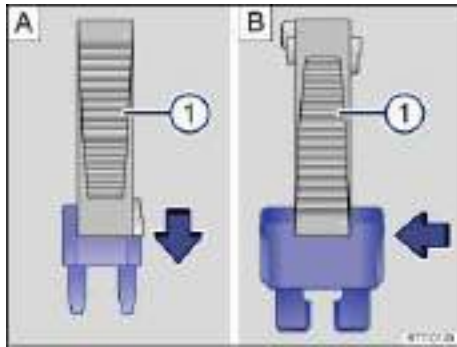

Fig. 199 Removing or inserting a fuse using the plastic tweezers.
- For *small fuses*, slide the tweezers ⇒ fig. 199 (1) onto the fuse from the top **A**.
- For *larger fuses*, slide the tweezers (1) onto the fuse from the side **B**.